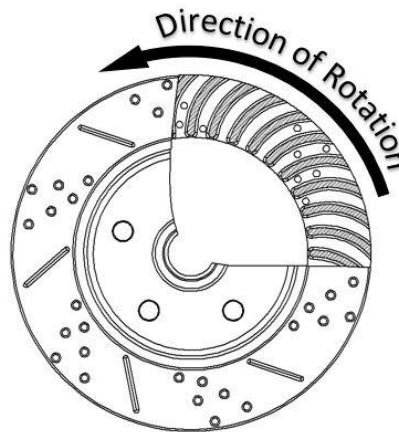

Figure 5 – Direction of Rotor Rotation
11. Place the correct LH or RH rotor onto the axle flange. Use three lug nuts when installing to hold the rotor tight against the flange which will the rotor from moving to allow for caliper installation and to avoid scratching the rotor. When installing rotors, be sure to follow the direction of rotation indicated on the rotor hat area with either an arrow or with an “L” for driver side or an “R” for passenger side. Figure 5 below shows the direction for reference.